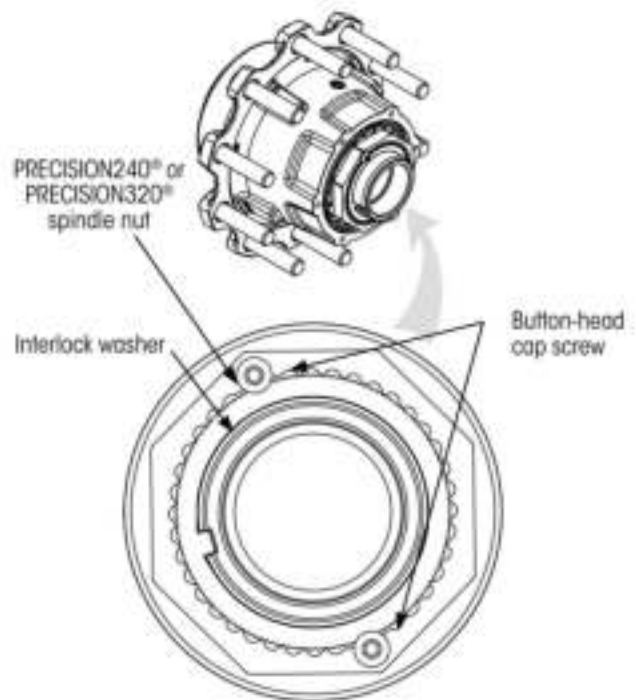

Figure 7: Button-head cap screw on PRECISION240[®] or PRECISION320[®] nut system
4. Using a hex key (**TOOLS REQUIRED** on page 6), remove button-head cap screws from interlock washer **Figure 7**.